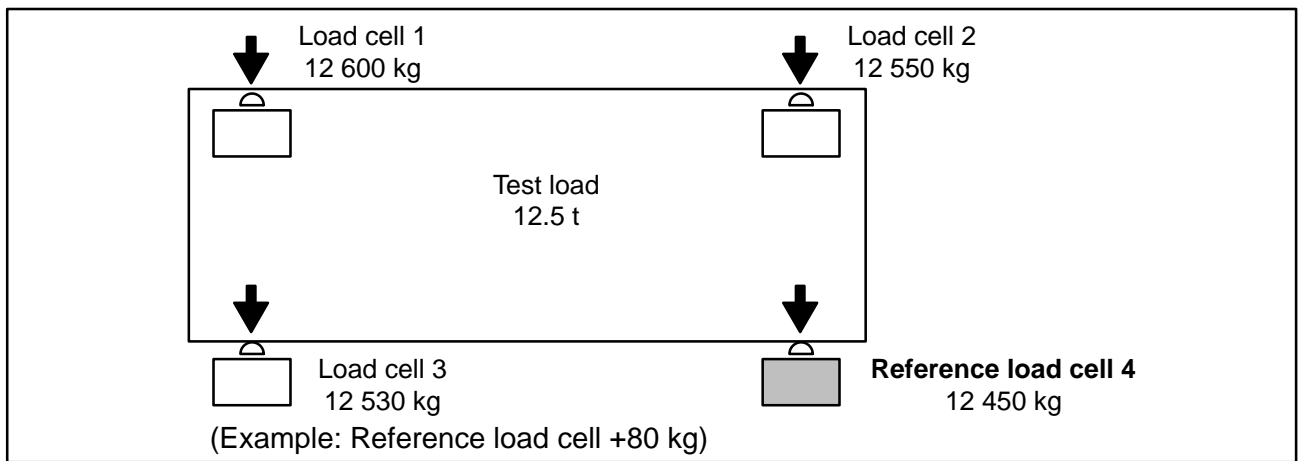

Fig. 7.1: Example: Platform weighing machine with 4 load cells with 12.5 t test load
- When the four corners of the platform are loaded, note the scale signals in order to assess the respective differences (in kg) to the corner of the scale (load cell) with the lowest indication. This load cell is the reference load cell (4) and does not need adjustment (in the example in Fig. 7.1, load cell 4).
In our example, load cell 3 has an off-center load error of 80 kg, which produces an adjustment resistance of 1.5 + 0.82 ohms (shown in Fig. 7.1).